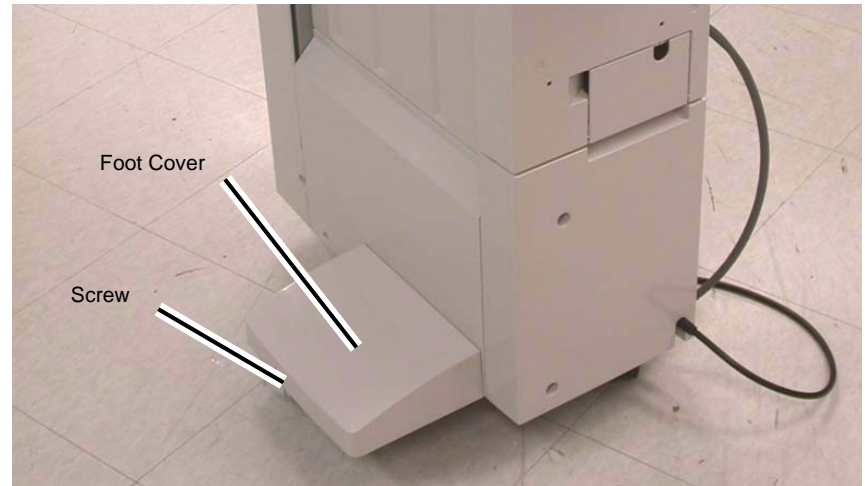

Figure 1 Removing the Foot Cover
2. Remove the Screw (1) (Figure 1).